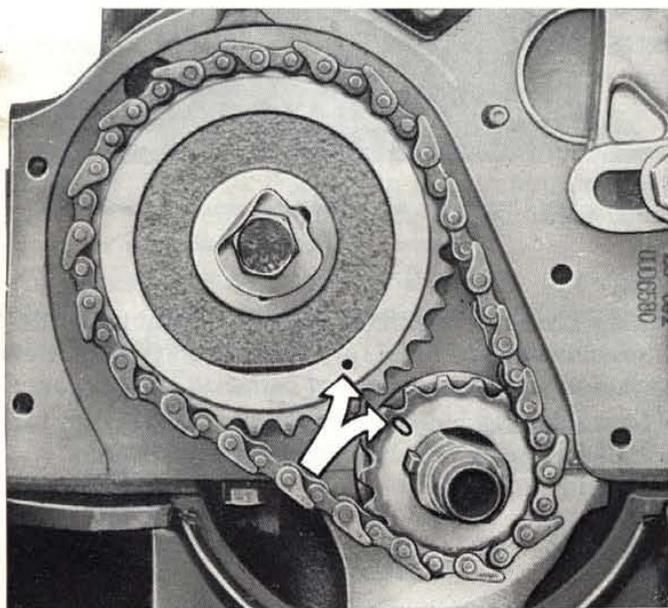

Fig. 117 - Timing marks on drive and driven sprockets.
The correct valve timing is obtained when the timing marks on sprockets are indexing as shown in fig. 117.
- without moving the camshaft, take out the driven sprocket, and mesh the timing chain with the sprockets; reinstall the driven sprocket and chain, using care that the timing marks are indexing (fig. 117); lock the crankshaft and camshaft by placing tool A. 60282 on the flywheel; use a torque wrench and draw up the driven sprocket screw with 36.2 ft.lbs (5 kgm) of torque, then bend down the lock plate.
— in this position observe the marks on timing sprockets: they should be lined up (fig. 117).